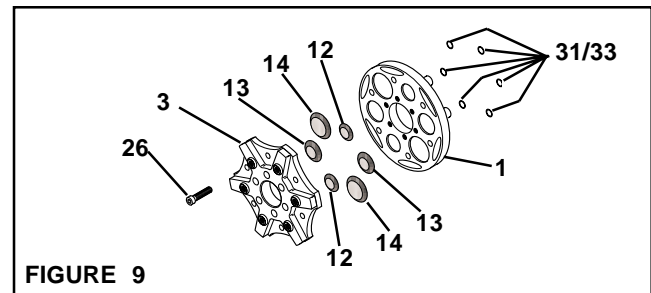

**FIGURE 8**
1. Remove the six Socket Head Cap Screws (Item 25) (See Figure 8).
2. Remove the Endcap (Item 3) and Cylinder (Item 1) (See Figure 8).
3. Remove the six Socket Head Cap Screws (Item 26); then, separate the Cylinder (Item 1) from the Endcap (Item 3) (See Figure 8).